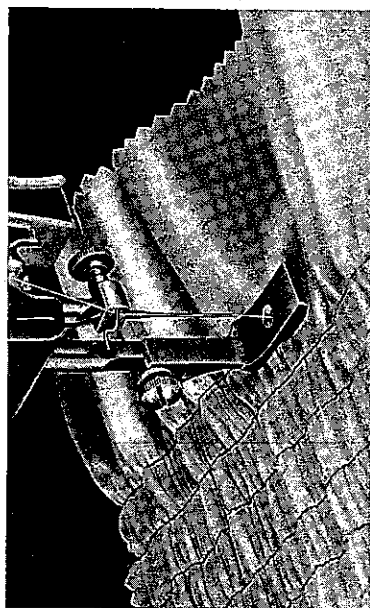

Fig. 53
8. Commence sewing (see General Instruction No. 10), after having placed fabric underneath foot (Fig. 53).